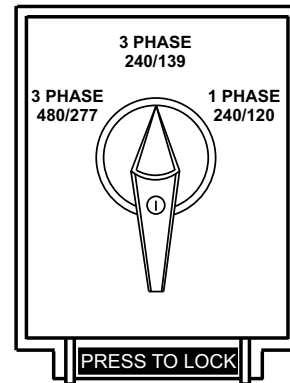
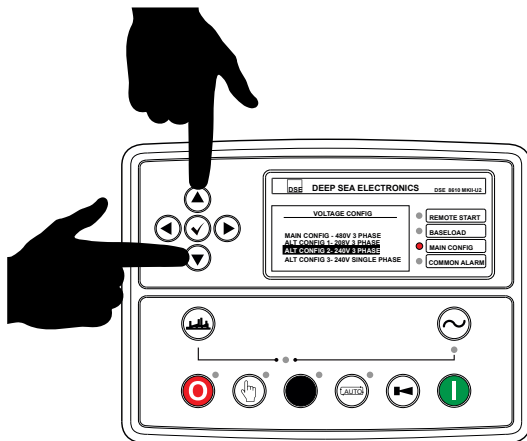

Figure 38. Voltage Selector Switch
Figure 42. Voltage Config Screen
- Verify that the "VOLTAGE CONFIG" screen (Figure 42) is displayed.
- Use the **UP/DOWN** arrows (Figure 42) to select the desired output voltage.
- Verify that the selected voltage being displayed on the Voltage Config Screen (Figure 42) is the same voltage as indicated by the voltage selector switch (Figure 38).